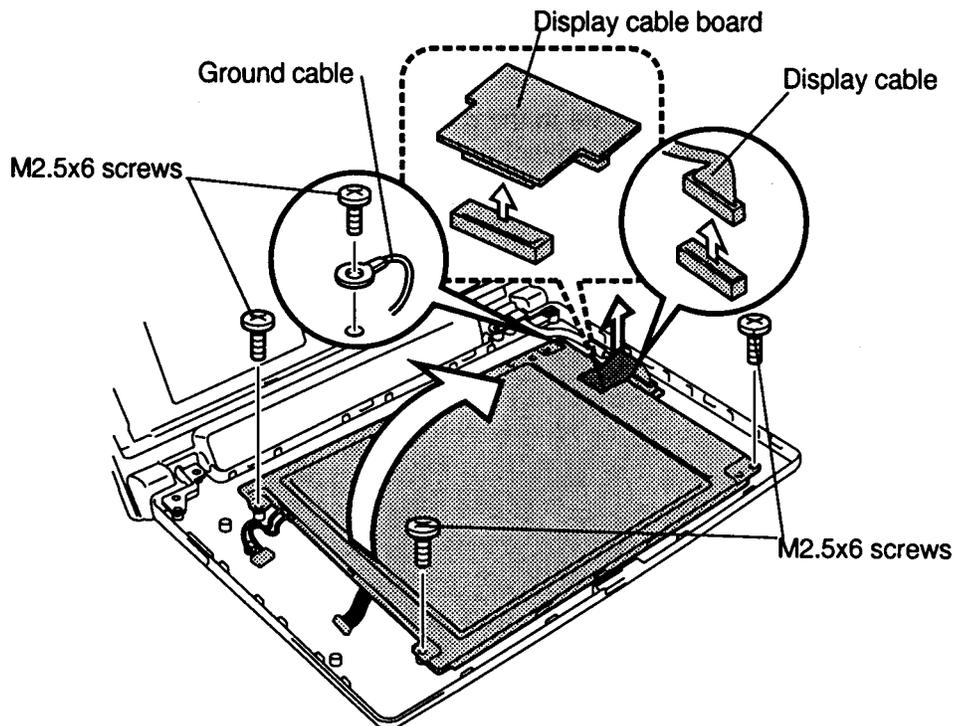

Figure 4-31 Removing the T2100CT LCD module and display cable board
To remove the T2100CT's LCD Module, follow the steps below and refer to Figure 4-31.
To install the T2100CT's LCD module, follow the steps below and refer to Figure 4-31.
5. Secure the panel with **four M2.5x6 screws**. Be sure to secure the ground cable as indicated in Figure 4-31.